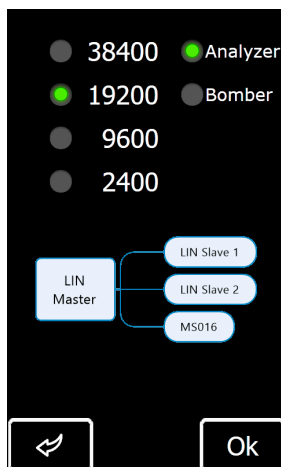
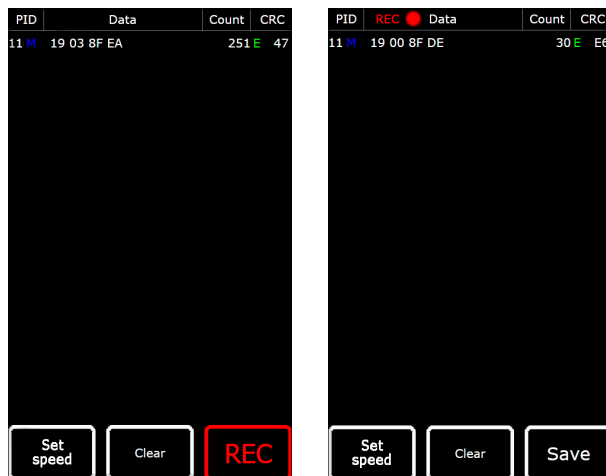

Figure 26. Screen to select a mode and a LIN bus speed
Figure 28. Analyzer Mode Screen
3. In the main menu on the tester screen select “LIN Analyzer” and then “Analyzer” (Fig.26) and the bus speed. As you push “Ok”, the data transmitted via the LIN bus will appear on the tester screen (Fig. 28).
3. In the menu on the device screen select “LIN Analyzer”, then “Bomber” and set a LIN bus speed (Fig. 26). Once you push “OK”, the test mode window will appear (Fig. 29).